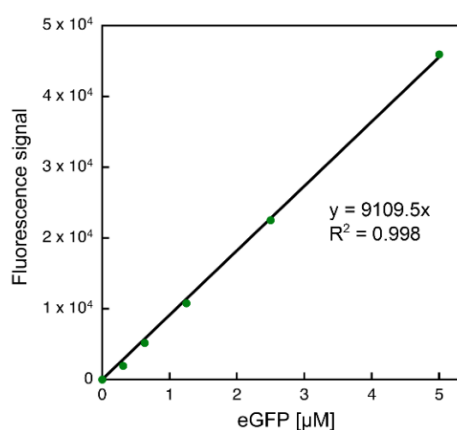

Figure 2. eGFP standard curve to evaluate protein production efficiency in myTXTL
- Plot the Blank subtracted fluorescence values of the eGFP standard (Y-axis) against their respective protein concentration (X-axis) and fit the curve to the linear regression formula ($y = m \cdot x$) to determine the deGFP concentration in the myTXTL control reaction (Figure 2).